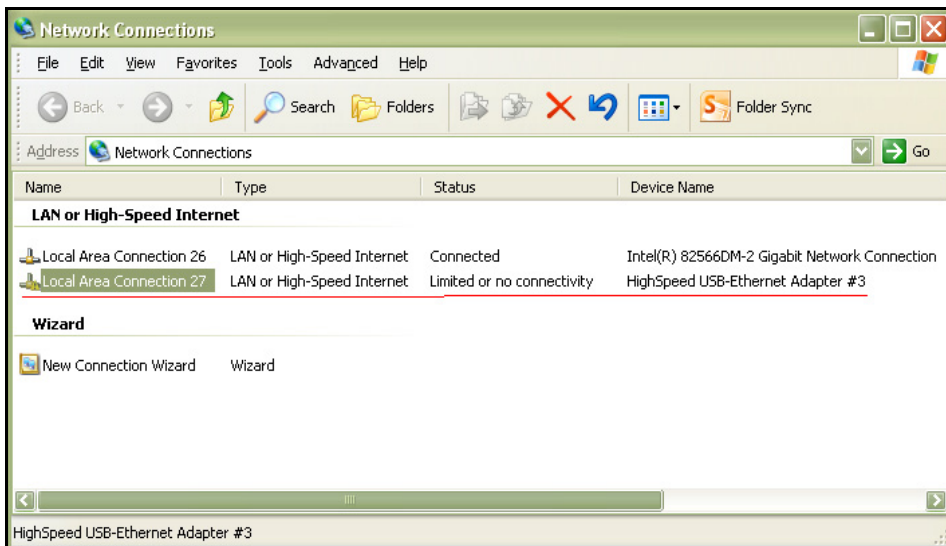

Figure 2: Network Properties with New Base Station
- c. The USB Adapter will be detected and Network properties will show a new connection as shown in Figure 2 below.